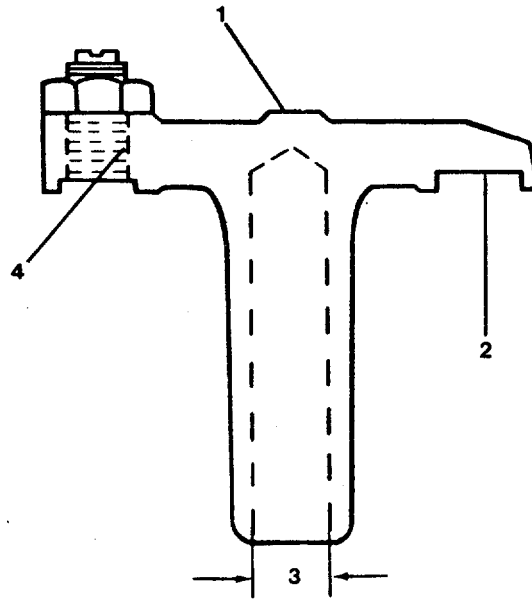

FIGURE 4-12. Crosshead Inspection Areas.
(1) Crossheads (Figure 4-12).
- (a) Check the inside diameter of the bore (3). Replace the crosshead if the bore exceeds 0.440 inch (11.18 mm).